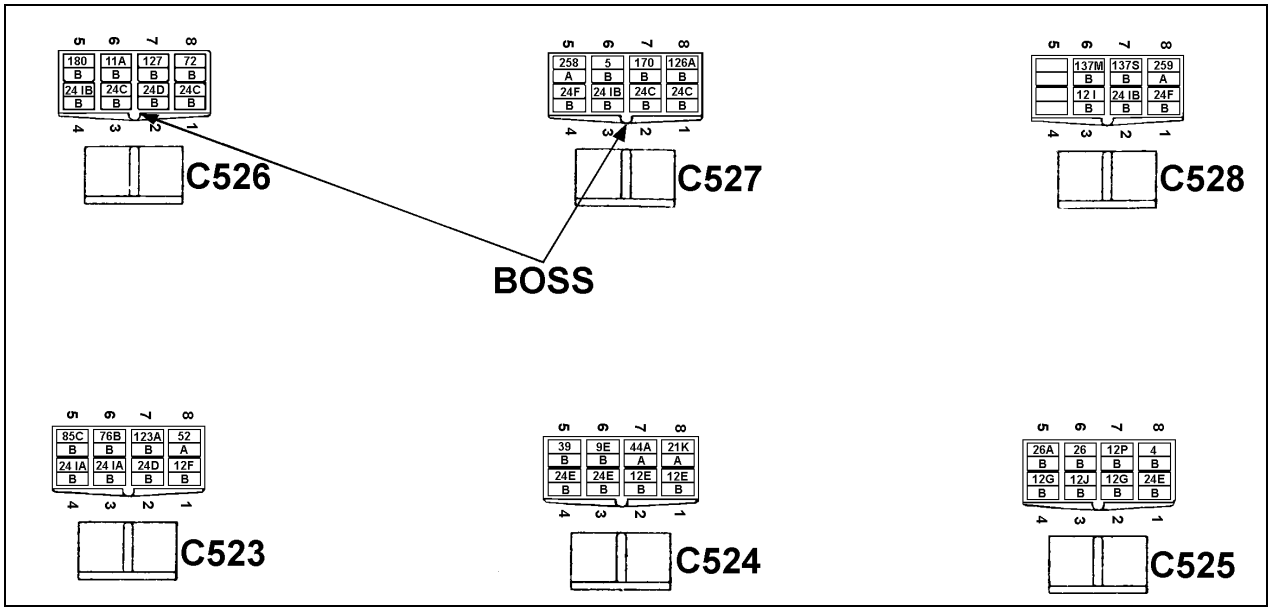

FIGURE 3: CONNECTORS POSITIONING
1. Using boss as a reference, position female connectors (Prévost # 562646) that were attached to fuse block male connectors so that they are facing towards you (refer to fig. 3 and 5).
3. If found to be unsatisfactory, reposition wiring as per figures 3 and 5. Reconnect male to female connectors.